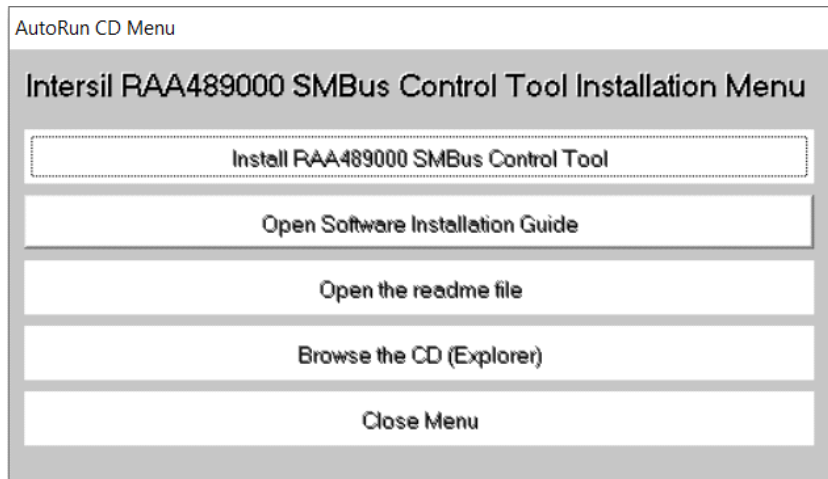

Figure 2. RAA489000 SMBus Control Tool Installation Wizard
2. Run **autorun.exe**. The menu in Figure 2 appears.